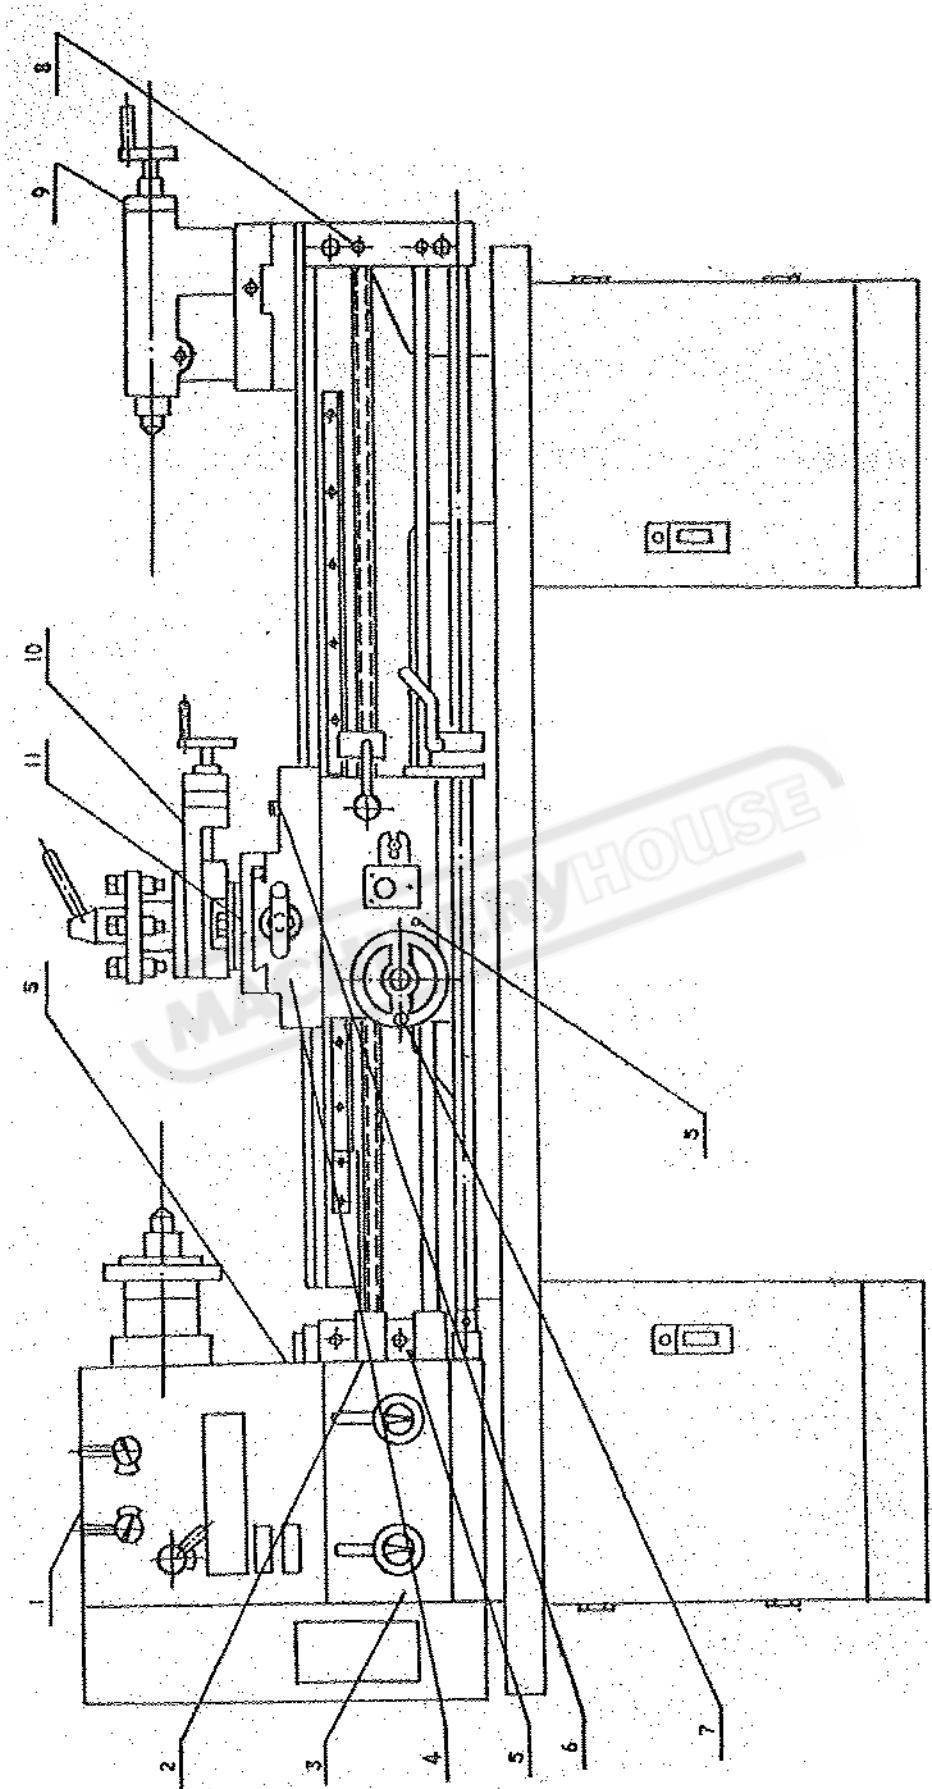

Fig. 6 Lubrication system
All the moving parts and sliding surface should be lubricated please consult Fig.6.
Oil cap 2 to 11 are ball oilers (see Fig.6),except for filling the oil up to the indicator mark.at oil cap 2 & 6 ,other oil caps should be oiled twice a day by oil gun.
9.1 Before operation, check the oil indicator, refer to lubrication Fig6 and lubricate all sliding and rolling parts.